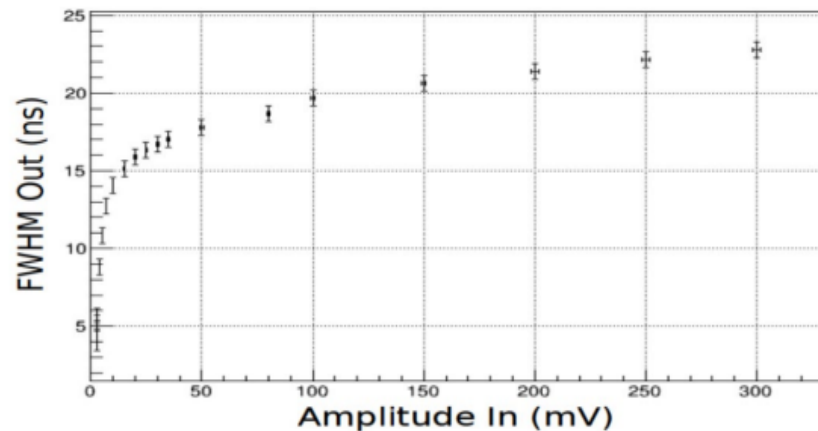

Figure 5: Dynamic of the time-over-threshold of the discriminator prototype in SiGe HJT technology.
- Time-over-threshold measurement directly with the discriminator (see Fig 5).